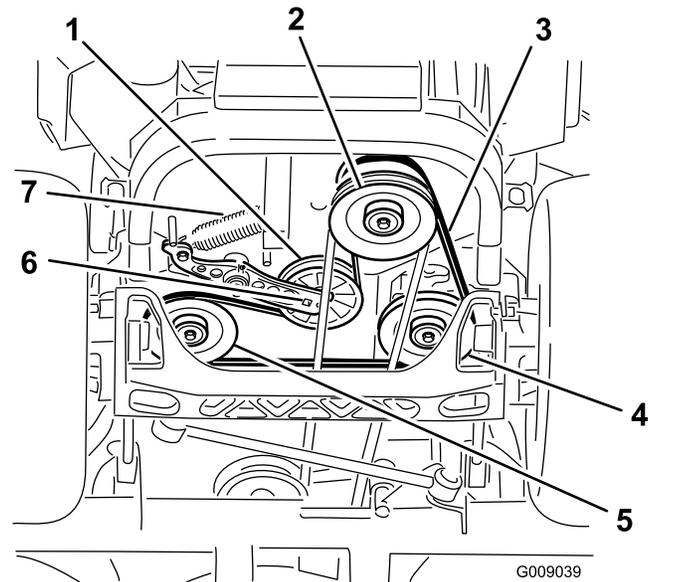

Figure 97
4. Raise the machine and support it with jack stands (Figure 97).
5. Use a ratchet in the square hole in the idler arm to remove the idler spring (Figure 97).
6. Unhook the idler spring from the frame (Figure 97).
9. Using a ratchet in the square hole in the idler arm, install the idler spring to the frame (Figure 97).